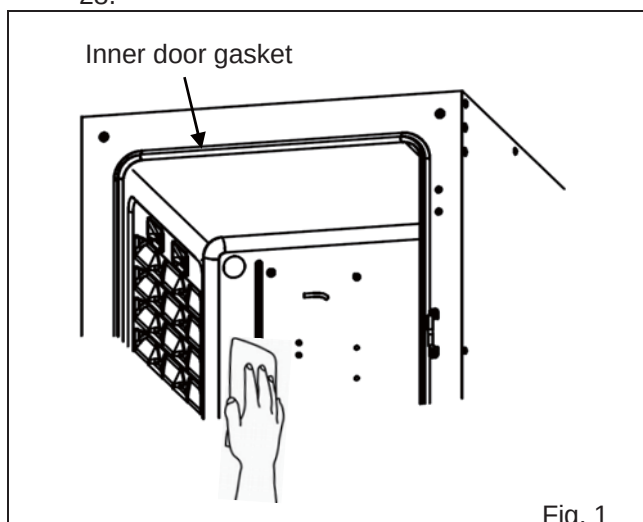

Fig. 1
2. Clean the inner attachments, the chamber inside walls, and the inner door gaskets with a cloth or sponge soaked in neutral detergent, diluted by 5 % or less (Fig. 1). (Undiluted detergent can damage the plastic components. For the dilution, refer to the instructions on the detergent.)
2. Open the outer and inner doors and pull out all the trays (Fig. 1).